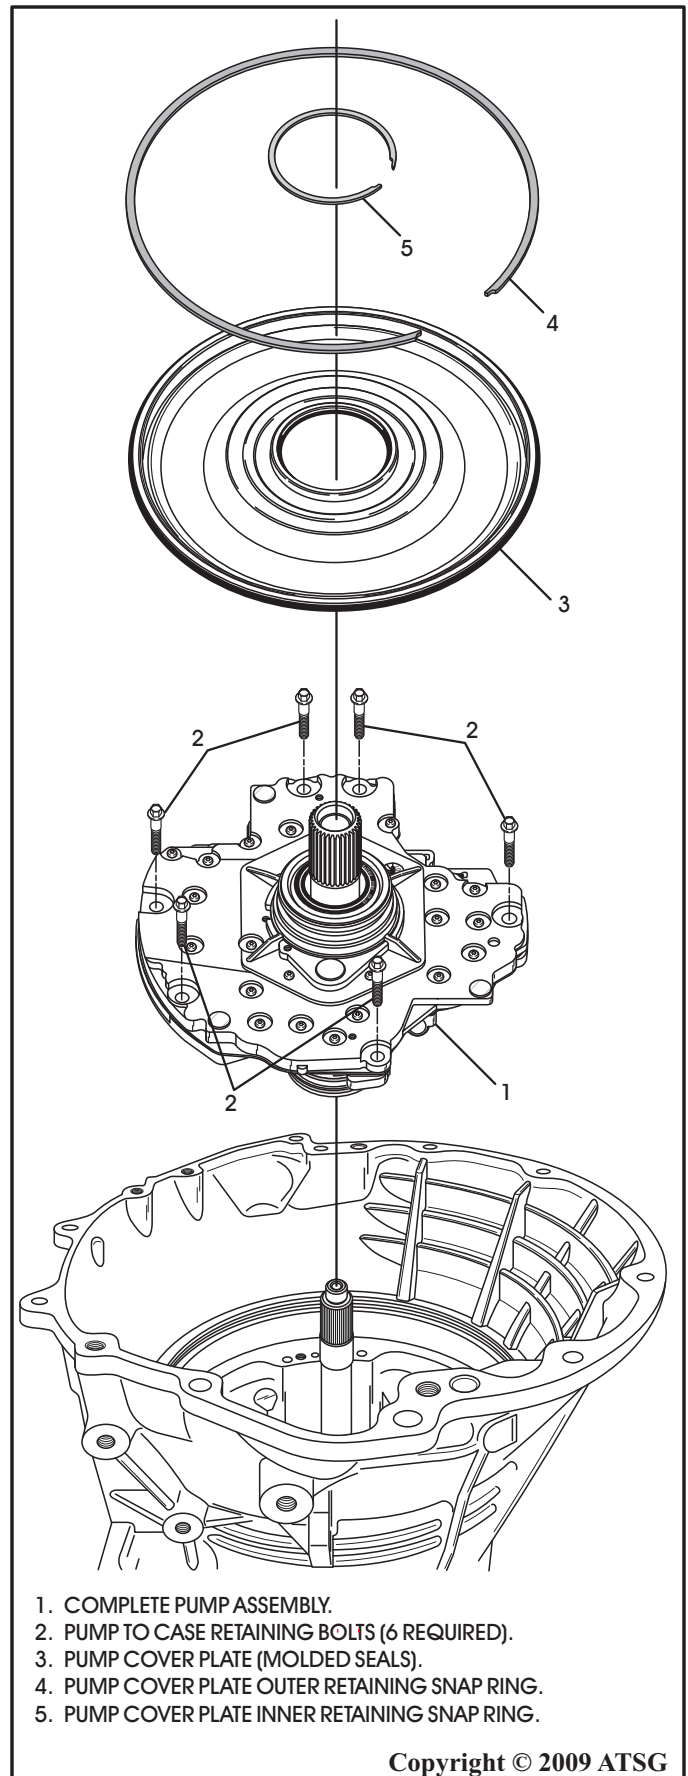

Figure 36
18. Remove the outer snap ring retaining the transmission front cover in the transmission case as shown in Figure 36.
19. Remove the inner snap ring retaining the front cover to the oil pump as shown in Figure 36.
20. Reach through one of the case openings in the valve body area with a long blunted tool, and tap the transmission front cover from the case. Refer to Figure 36.
21. Remove the six bolts retaining the oil pump in the transmission case (See Figure 36).
22. Remove the oil pump from the transmission. Hold down on the input shaft to prevent the input clutch housing assembly from coming out with the oil pump (See Figure 36).